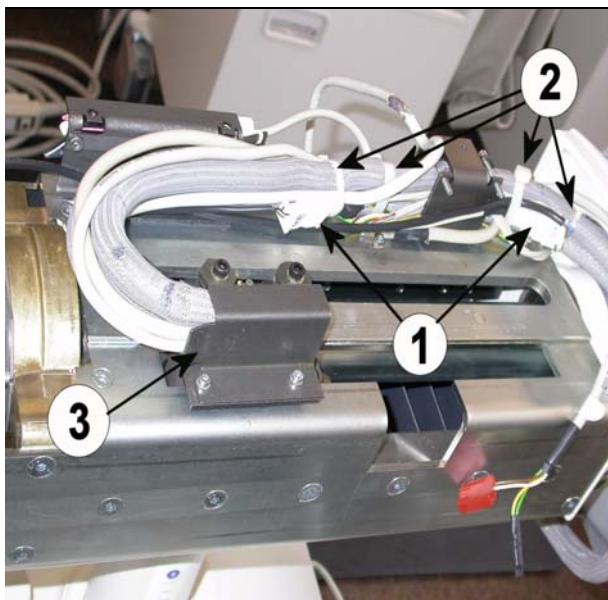
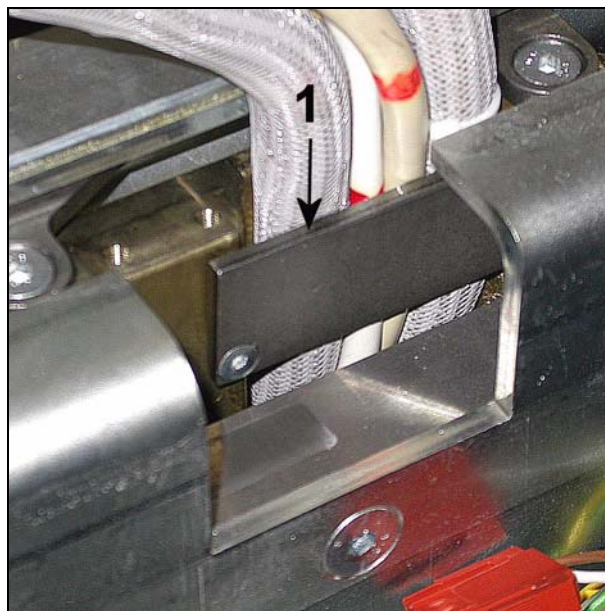
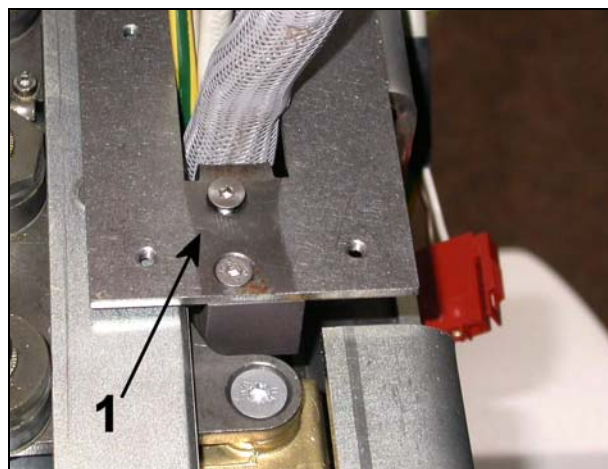

Fig. 9
Fig. 10
Fig. 11
- Fig. 9 shows the horizontal carriage in its end position (moved out fully). Adapt the cable lengths in the horizontal carriage as illustrated in Fig. 9. For this purpose, push any excess lengths down into the vertical tube. Some cables have a red mark running round them. They lie in the cable clamp (1/Fig. 10).
- Reconnect the plug connections (1/Fig. 9).
- Reattach cables and plugs using cable ties (2/Fig. 9).
- Refit the cable guide (1/Fig. 11) and cable clamps (1/Fig. 10) and (3/Fig. 9).